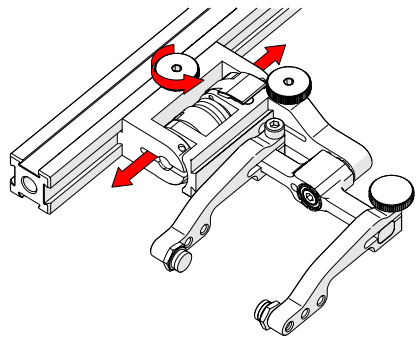

Fig. 66 - Adjust on frame bar
2. Use the probe holder adjustment knob to position the probe holder along the frame bar (Fig. 66).